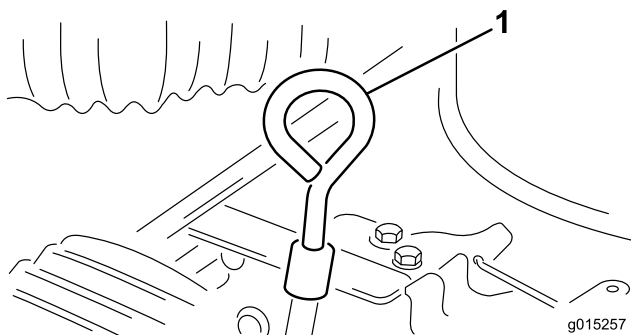

Figure 7
2. Clean around the oil dipstick so that dirt cannot fall into the filler hole and damage the engine (Figure 7).